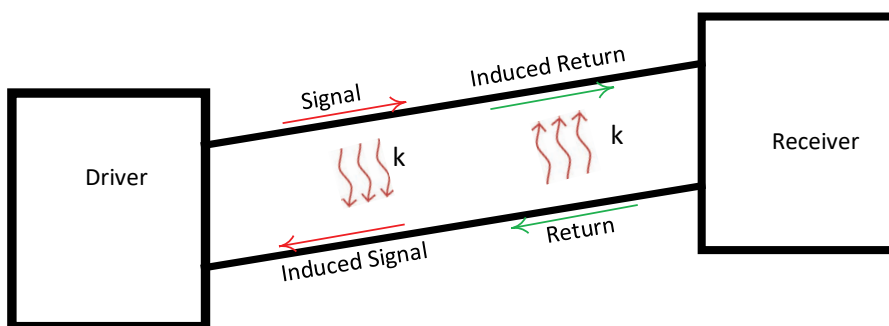

Figure 3.1
Consider a situation where the outgoing signal is on a conductor and the return signal is on another conductor (Figure 3.1). The outgoing signal on the conductor generates an electromagnetic wave which couples onto the return conductor (with coupling coefficient, k), reinforcing the return signal. The return signal also generates an electromagnetic wave, and it will couple back into the outgoing conductor, reinforcing the outgoing signal. Since the system is symmetrical, the return signal couples into the primary signal with the same coupling coefficient, k .
3.1.1 Differential Impedance (Note 3): In the illustration above, I described two traces with the signal and its return (Figure 3.1). I pointed out that each signal couples into, and reinforces, the other. The stronger the coupling (i.e. the closer the traces are to each other) the stronger the reinforcement and the lower the energy required to send the signal down the trace and back.